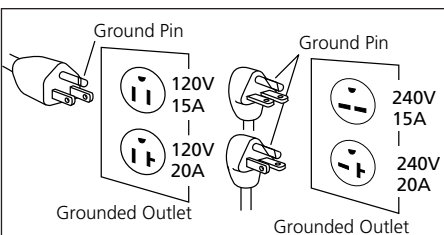

Figure 5
1. This product is for use on a nominal 120 or 240 volt circuit and has a grounding plug that looks like one of the plugs illustrated in Fig. 5. Make sure product is connected to an outlet having the same configuration as the plug. This product must be grounded. In the event of an electric short circuit, grounding reduces the risk of electrical shock by providing an escape wire for the electric current. This product is equipped with a cord having a grounding wire with an appropriate grounding plug. The plug must be plugged into an outlet that is properly installed and grounded in accordance with all local codes and ordinances.
1. If the plug on the electrical cord of the unit is unfamiliar to you or will not fit your particular receptacle, Figure 5 will help you understand why by illustrating the different plugs and the voltages they are to be used with.